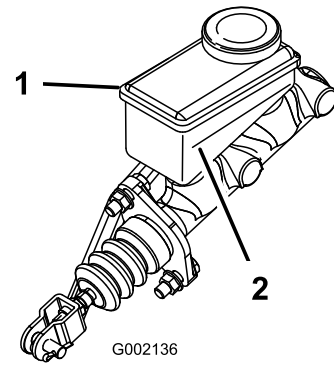

Figure 54
3. Look at the outline of the fluid level at the side of the reservoir (Figure 54).
- B. Add DOT 3 brake fluid to the reservoir until the fluid level is above the Minimum line (Figure 54).